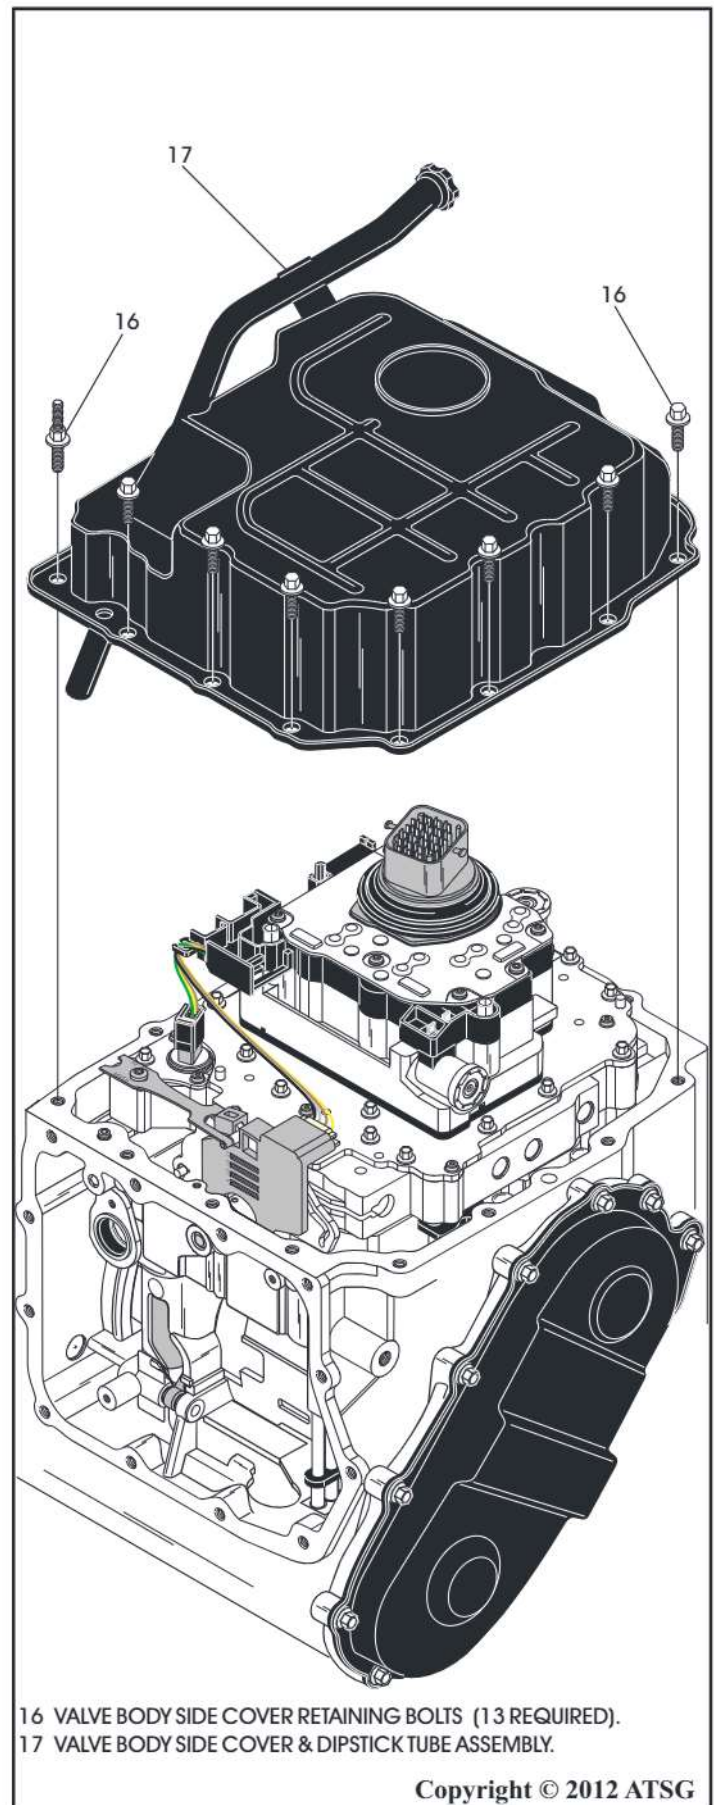

Figure 283
93. Install the valve body side cover to the case, as shown in Figure 283.
94. Install the 13 valve body side cover retaining bolts, as shown in Figure 283, using an 8mm socket on the regular style bolts and 10mm on the stud style bolts.